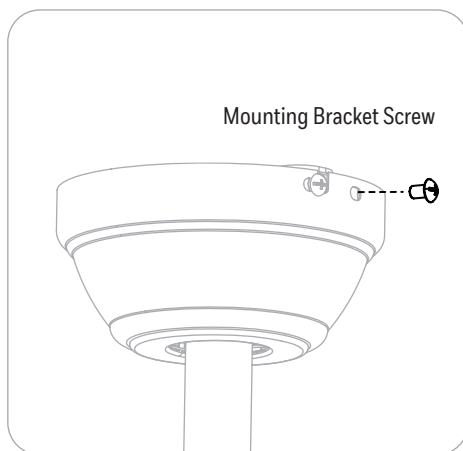

Figure 4.2
2. Align the canopy over the loosened mounting bracket screws. Place the J-slot of the canopy onto the mount bracket screws and rotate clockwise. Secure the canopy with the two previously removed mounting bracket screws. Tighten all the mounting bracket screws securely (Figure 4.2).